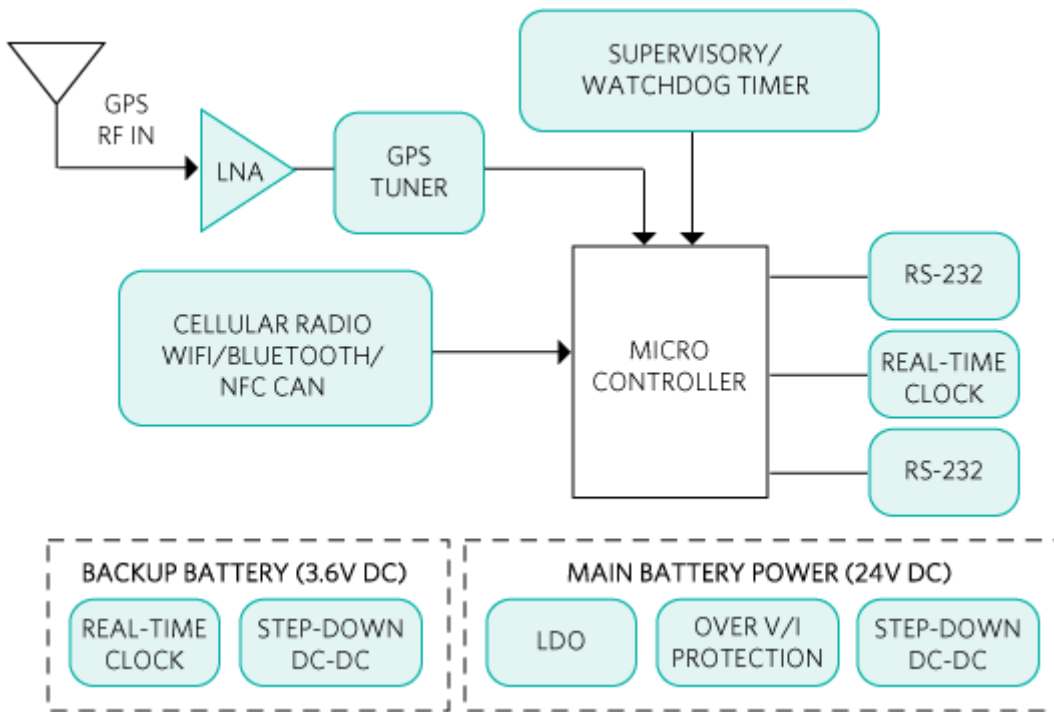

Figure 1. Typical fleet tracking/management system architecture.
**Figure 1** shows is a typical fleet tracking/management system architecture.